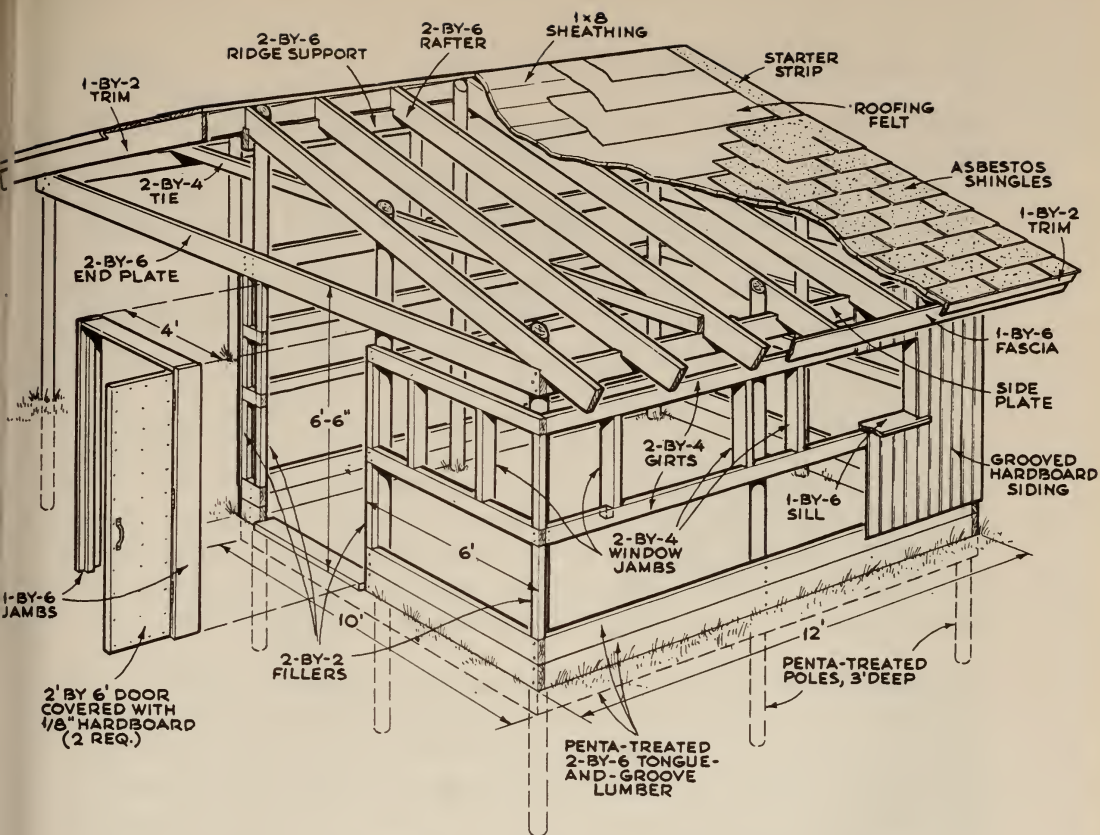

Fig. 1. Overall plan of pole cabin showing dimensions and all framing members.
Set out the post-hole locations with stakes and line, using the triangular method of ensuring right-angled corners as explained in Chapter 5. Note that all dimensions are to the outside of the framing (Fig. 1). Dig the holes about 8" in diameter and fully 3' deep. A post-hole digger is almost indispensable; digging with a spade is much more difficult and leaves bell-mouthed holes that do not grip posts as securely. You can rent such a tool if you don't own one.
**FITTING DOORS AND WINDOWS.** Frame the window openings with 2-by-4s to fit purchased casement or sliding windows. The framing, placed with its 4" dimension at right angles to the girts, should be notched to make its outer edge flush with the surface of the girts (see Fig. 1).